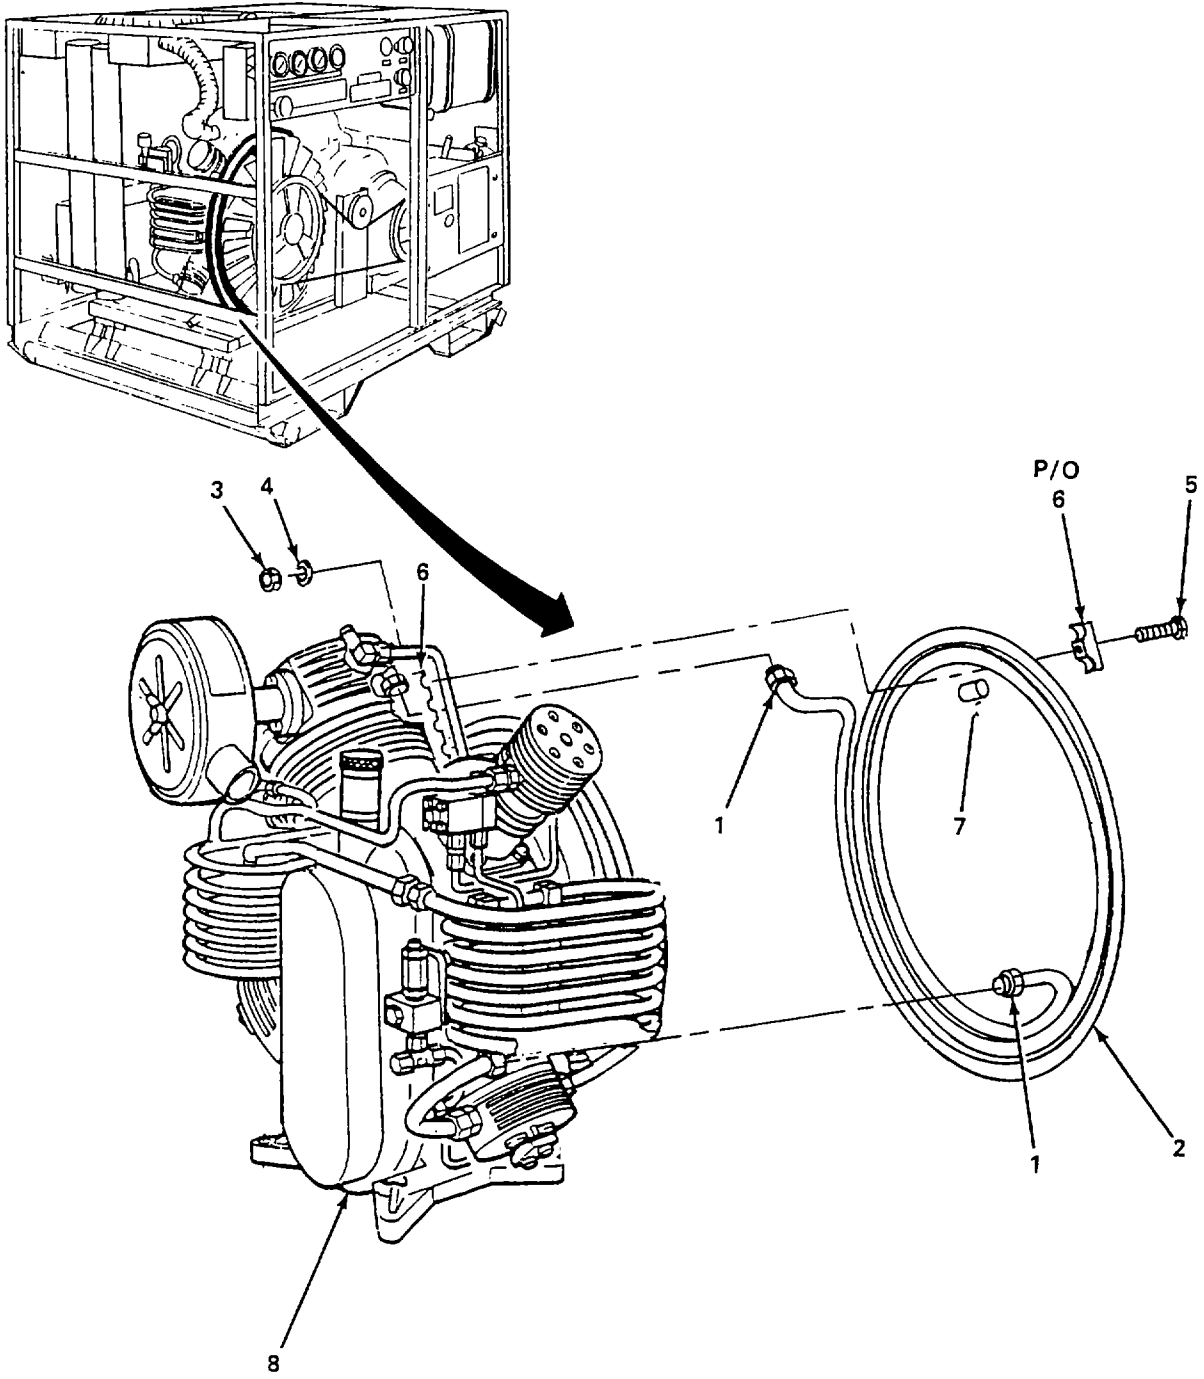

Figure 5-15. Compressor 1st Stage Intercooler, Replace.
- (1) 1st stage intercooler. (figure 5-15)